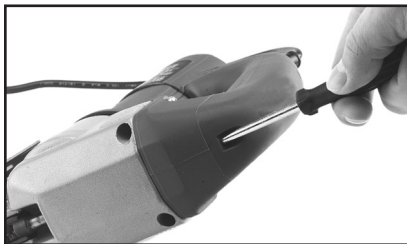

Figure 4. Loosening blade locking screw.
1. Insert the screwdriver included with the Model G8994Z into the hole at the top front of the saw (see **Figure 4**), then loosen the screw 10–12 turns.